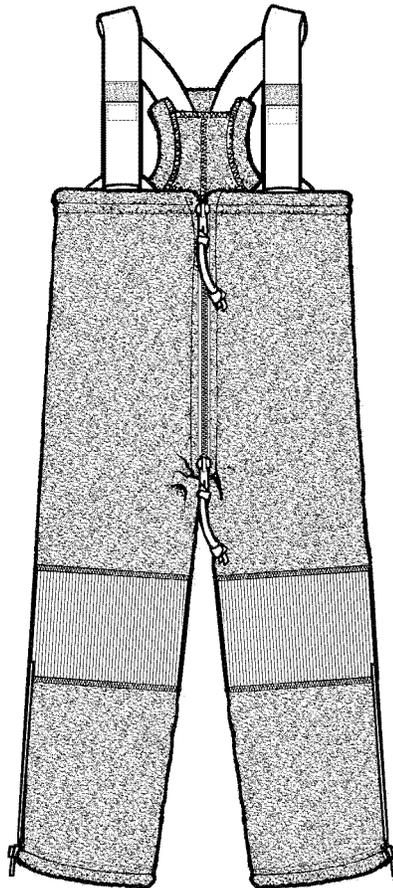

Figure 3-45. Overall
4. The Overalls (figure 3-45) was developed to be worn over the flight suit and underneath the shell pant to provide insulation to aircrew on helicopters or in the back of patrol and cargo fixed wing aircraft who work in an environment with very little, if any, capability to provide heat. The design enables the overall to be put on while wearing boots, and has a suspender that adjusts with Velcro in order to avoid hardware that could press into the body and create a hot spot. Aircrews that wear a torso harness will not use this item. The overall is made from the same double weight velour as the heavyweight garments.